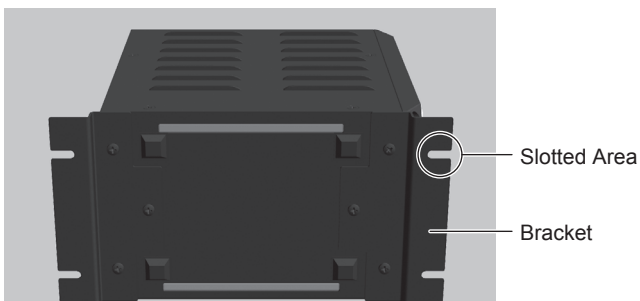
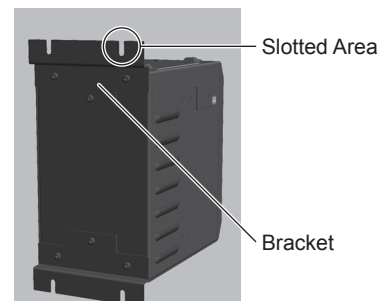

Fig. 13
Fig. 14
- The Bracket can be installed on the " Bottom Mounting (Fig. 13) " and " Rear Mounting (Fig. 14) " of the CONTROLLER.
- (1) Attach the Installation Brackets (2pcs.) using the provided Mounting Screws (6pcs.).
- (2) Attach the CONTROLLER (Bracket's Slotted Area) to the machine using the provided Mounting Screws (6pcs.).